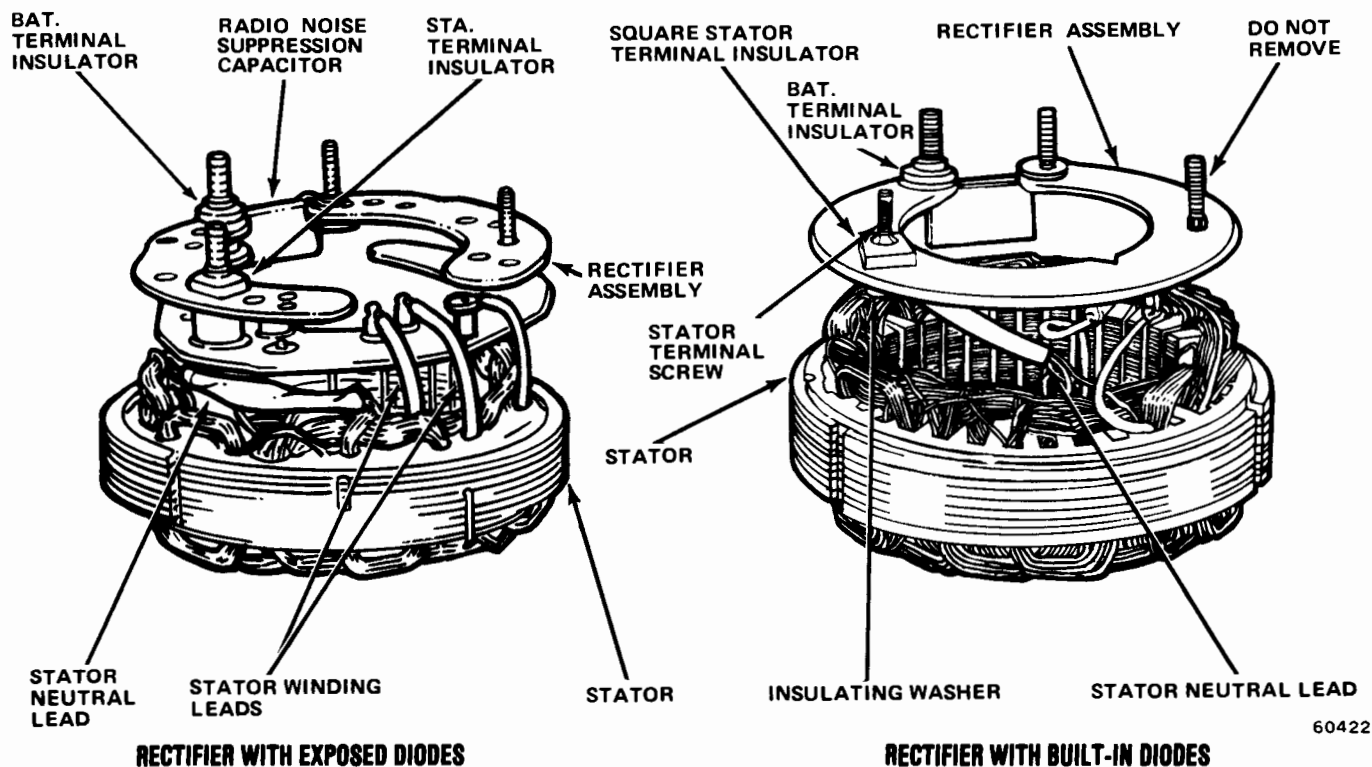

Fig. 3-21 Stator and Rectifier Assemblies
(8) Wrap three stator winding leads around circuit board terminals.
(9) Install stator neutral lead on rectifier with exposed diodes by inserting stator terminal through neutral lead, dished washer, and rectifier. Turn stator terminal counterclockwise 1/4-turn to lock.
(10) Install stator neutral lead on rectifier with built-in diodes by inserting stator terminal through neutral lead, insulating washer, and rectifier. Align serrations of stator terminal and rectifier hole and press terminal into rectifier.
(11) Install radio noise suppression capacitor on rectifier terminals (fig. 3-21).
(12) Install BAT terminal insulator and STA terminal insulator (fig. 3-21).
(13) Position stator and rectifier assembly in rear housing.
(14) Position STA (black), BAT (red), and FLD (orange) insulators on terminal bolts, and install retaining nuts.
(15) Position rear housing and stator assembly over rotor and align scribe marks made during disassembly.
(16) Seat machined portion of stator core into step in both end housings.
(17) Install housing through-bolts.
(18) Remove brush retracting toothpick and put a dab of waterproof cement over hole to seal it.